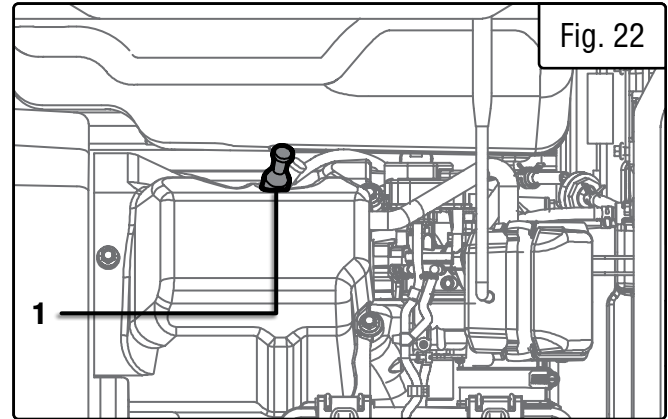

Fig. 22
1. Open the left side panel and locate the spark plug (Fig. 22 - 1).